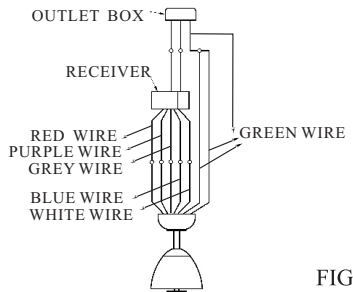

FIG.6
2. Connect the red wire from receiver to the red wire from fan with wire nut. Connect the purple wire from receiver to the purple wire from fan with wire nut. Connect the blue wire from receiver to the blue wire from fan with wire nut. Connect the grey wire from receiver to the grey wire from fan with wire nut. Connect the white wire from receiver to the white wire from fan with wire nut. Connect the green wire from ceiling, and green wire from hanger bracket with green wire from downrod ball with wire nut. (see Fig 6)